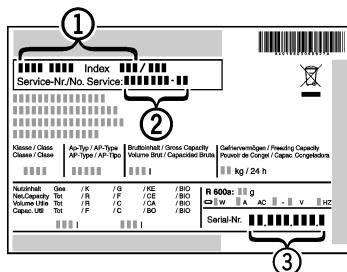

Fig. 12
- Read the appliance name *Fig. 12 (1)*, service no. *Fig. 12 (2)* and serial no. *Fig. 12 (3)* on the rating plate. The rating plate can be found on the inside of the appliance on the left.
- Notify our customer service team and give them the error, the appliance name *Fig. 12 (1)*, service no. *Fig. 12 (2)* and serial no. *Fig. 12 (3)*